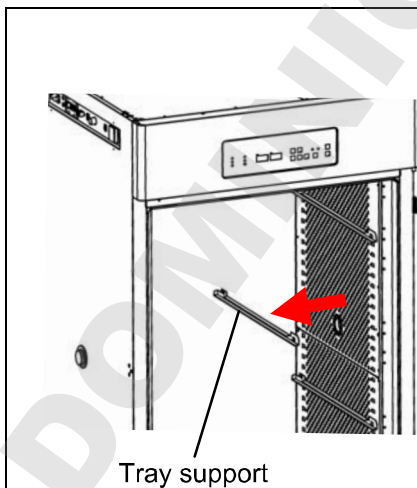

Fig. 1
2. Open the outer door, and take out all trays and tray supports from the chamber. See Fig.1.